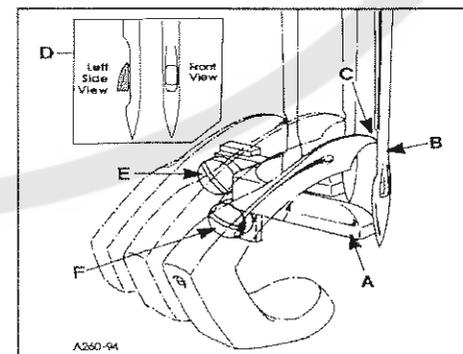
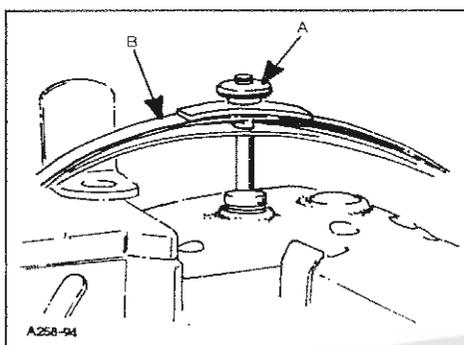
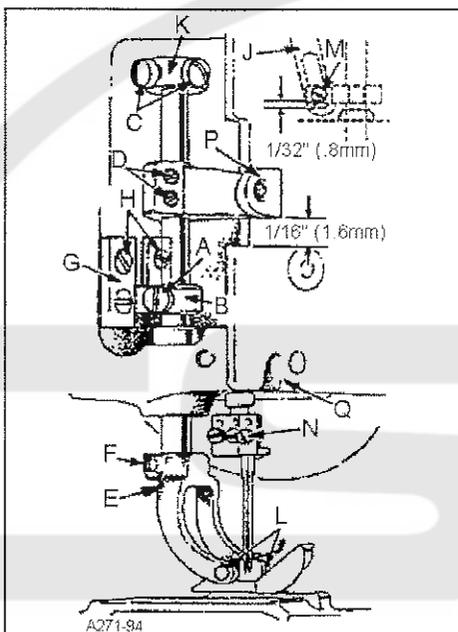

FIG. 13
FIG. 14
FIG. 15
Set the rear needle guard (A, Fig. 13) horizontally to touch and possibly deflect slightly to obtain solid guarding of all needles (B) when at its extreme forward position. If adjustment is necessary loosen screw (E) and move guard front to back as required. It should be set vertically as low as possible, yet have its guarding surface in contact with the needles until the points of the loopers (C), moving to the right, are even with the right side of the needles. If adjustment is necessary loosen screw (F) and move guard and holder up or down as required.
NOTE: When installing the needle it should be parallel with the eye in line of feed. If adjustment is necessary, loosen screw (N, Fig. 15) in needle head and rotate needle to attain adjustment (D, Fig. 13).
Remove presser bar leaf spring (B, Fig. 14) and nut (B). Loosen screw (A, Fig. 15) on presser bar guide (B). Loosen screws (C) in upper collar and screws (D) in needle lever thread pull-off lever. Slide presser bar upward high enough to slip on presser foot yoke (E) with foot attached and tighten screw (F) on flat of presser bar. Position foot so that the needle holes in the foot line up with the holes in the throat plate. Tighten screw (A)
Presser foot guide plates (G, Fig. 15) should be set so that entire presser foot and bar assembly has free movement up and down with no left to right movement.
With foot properly aligned on throat plate and presser bar guide (B, Fig. 15) securely fastened to presser bar, adjust both guide plates (G) to obtain above setting. Tighten four screws (H).
Reinstall presser bar spring (B, Fig. 14) and knob (A), with presser foot resting on throat plate.
The presser foot should be adjusted to be 1/8" (3.17mm) above the throat plate before the feed roller mechanism begins to rise. Loosen screw (A, Fig. 15) in presser bar lifter and guide (B), raise or lower guide as required to attain the specified point at which the feed roller begins to rise. Retighten screw (A) and maintain needle settings.
NOTE: There should be a minimum 1/32" (0.8mm) clearance between screw (M, Fig. 15) and the bottom of the slot in link (J).
Regulate the pressure on the presser foot by turning the presser spring regulating knob (A, Fig. 14) located on top of pressure foot spring (B).
To remove just the presser foot, remove screws (L, Fig. 15) and replace foot, retighten screws (L).